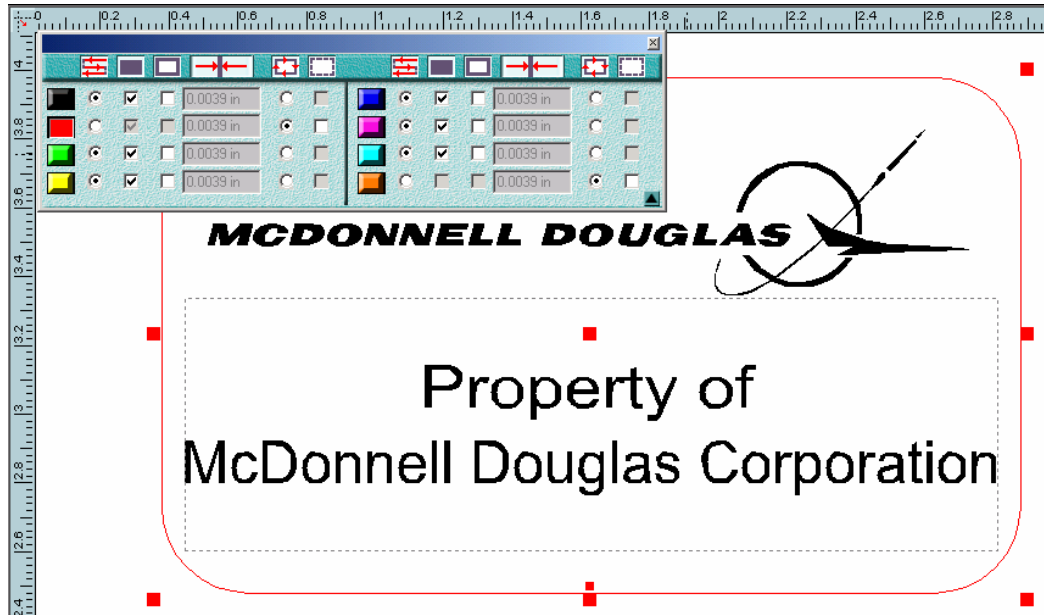

Figure 11-12 Vector Mode Specified for Engraving the Rectangle
- We'll select "Vector Mode" in the "Laser Colors" dialog window for the red color, and the screen appears as shown in Figure 11-12.